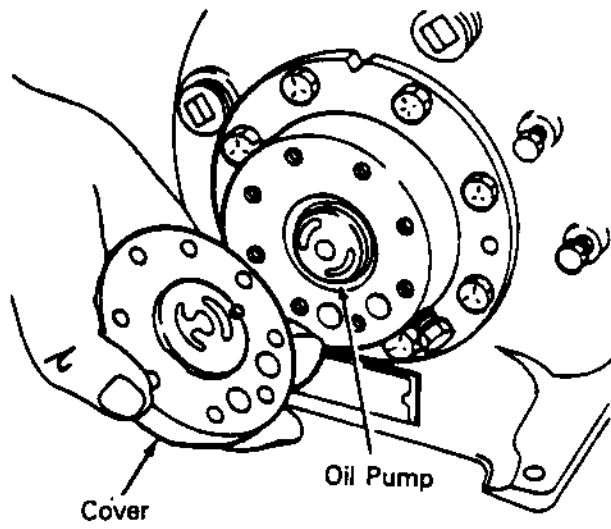
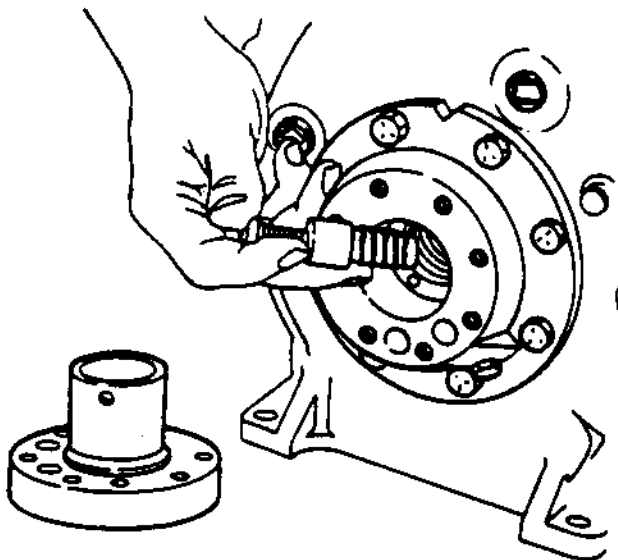

Figure 31 – Oil Pump Cover Removed
Figure 33 – Removing Plunger and Spring Assembly
1. Loosen and remove all but two opposite cap screws (14) which attach the oil pump cover (15) to the pump end bearing head (18). Slowly and alternately loosen and remove the remaining two cap screws from the cover to release pressure from the pressure relief valve assembly. If the cover does not follow the bolts, tap the cover with a plastic hammer to break it loose. Remove the oil pump cover and gasket (16) from the pump end bearing head.
3. Remove the oil pump and valve assembly (17) from the pump end bearing head (Figures 31 and 32). A pump cover screw inserted in the plunger (Figure 33) will aid in removing the plunger and spring assembly.
6. Place the gasket (16) on the pump cover (15). Align pin in pump cover with recessed area on face of the pump as shown in Figure 31.
8. Start two bolts (14) into opposite sides of the cover. Push cover against bearing head by hand and